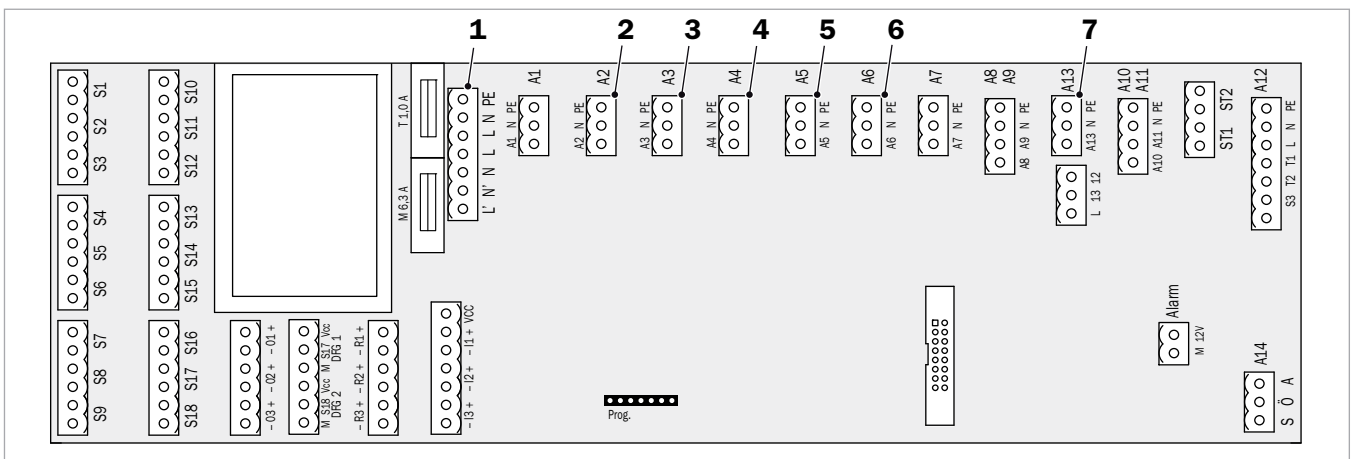

Fig. 8: Mains module
2. Remove the plug from (1) the mains module ( → Fig. 8) and plug it into (1) the emergency cable tree.